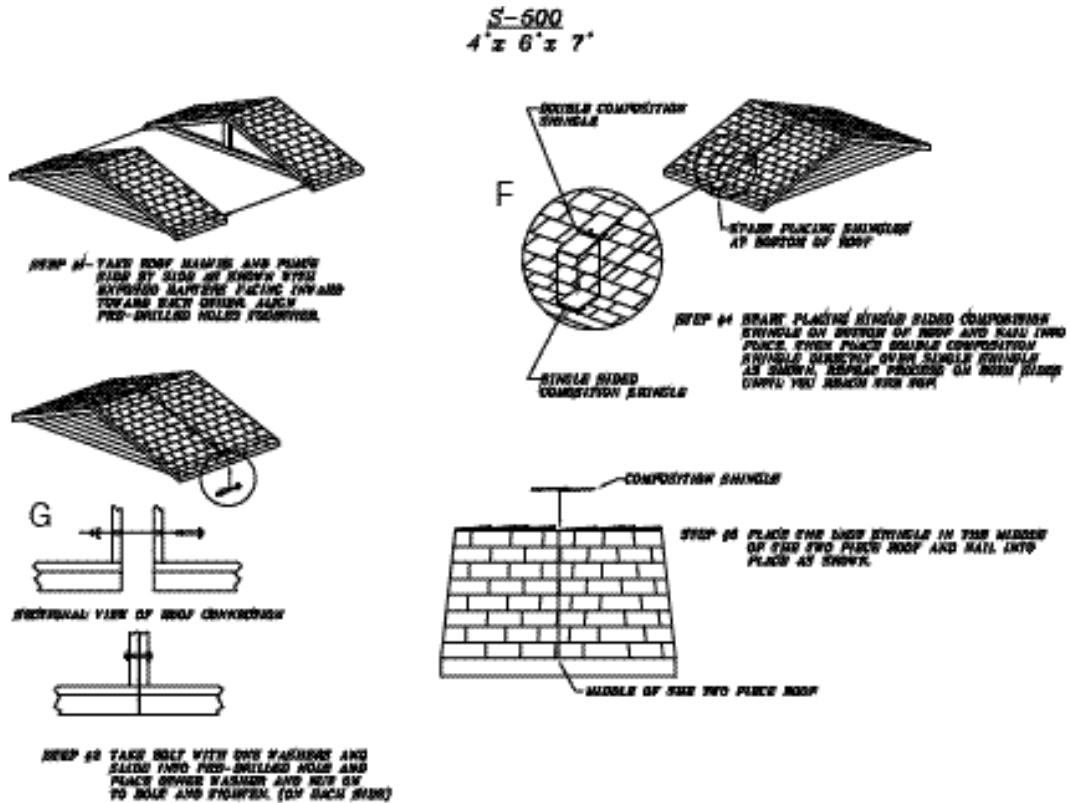

Figure 13C. S-500 Extreme Sauna Roof Assembly
**NOTE:** The following steps deal with **Figure 13C**.